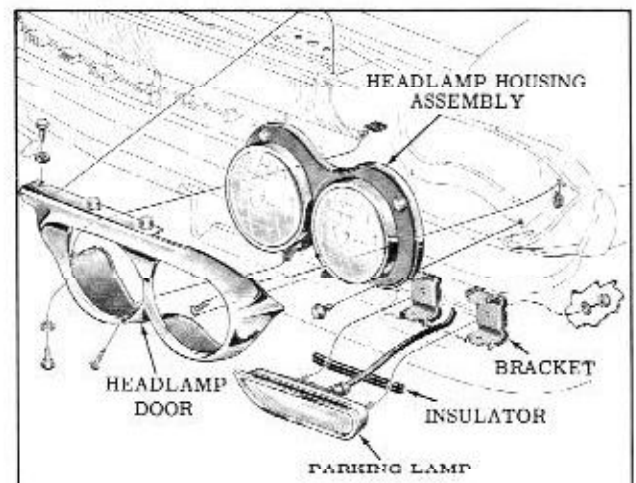

Fig. 11-7 Headlamp Assembly
3. Remove 4 headlamp assembly attaching screws and remove headlamp assembly. (Fig. 11-7)
1. Remove the headlamp door and headlamp assembly. (Fig. 11-7)